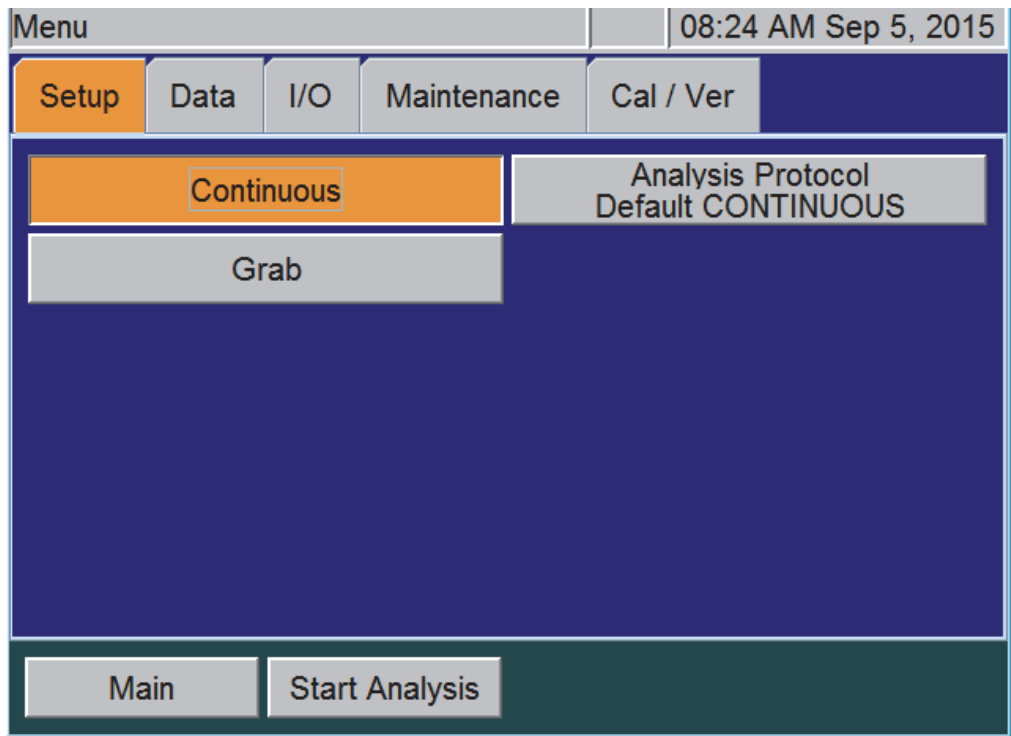

Figure 25: The Menu Screen
The *Menu* screen (Figure 25) provides you with access to all Analyzer settings and configuration options. The *Menu* screen displays five tabs that provide access to the main configuration areas.
16. The new protocol appears in the list. Select the protocol. You can confirm the correct protocol is selected by confirming the protocol is listed on the **Analysis Protocol** button. (See Figure 25 on page 108.)